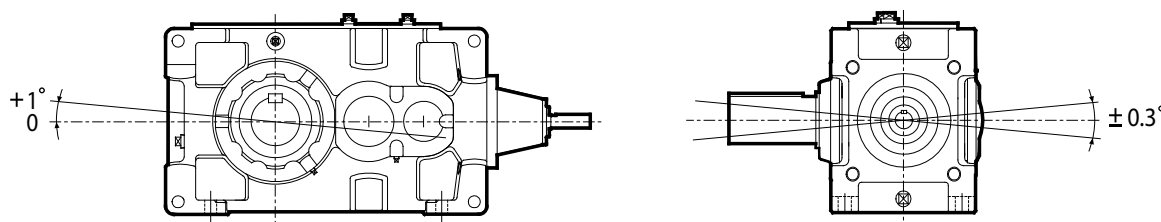

Fig. 3
6. Fit fan hub 3) and 5) and secure with bolts 1), 2) and 3)(Figs. 3 and 4).